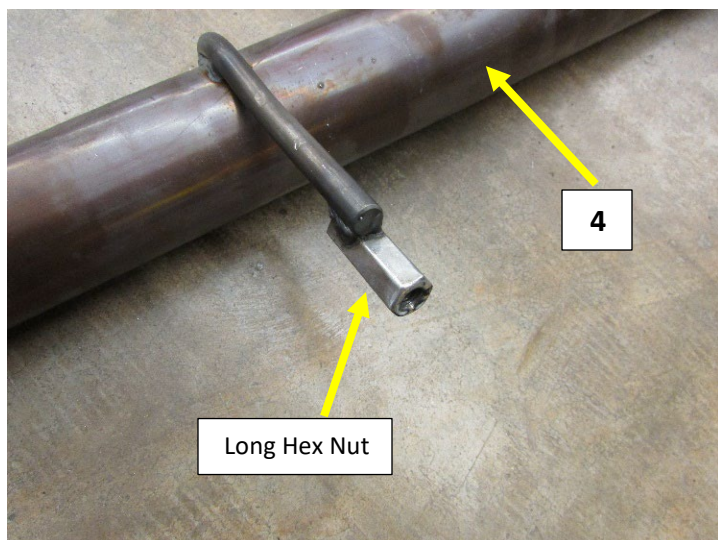
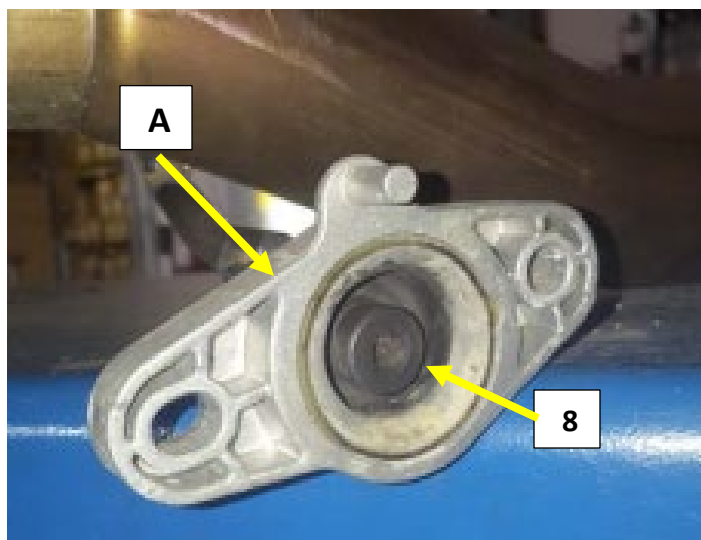

Figure.3
Figure.4
1. Install the OEM mid pipe hanger assembly (A) Fig.4 on to the long hex nut of the inlet pipe-A (4) Fig.3
2. Install the $\frac{1}{2} \times \frac{3}{4}$ " shoulder bolt (8) into the hex nut from the back of the isolator and tighten. Fig.4